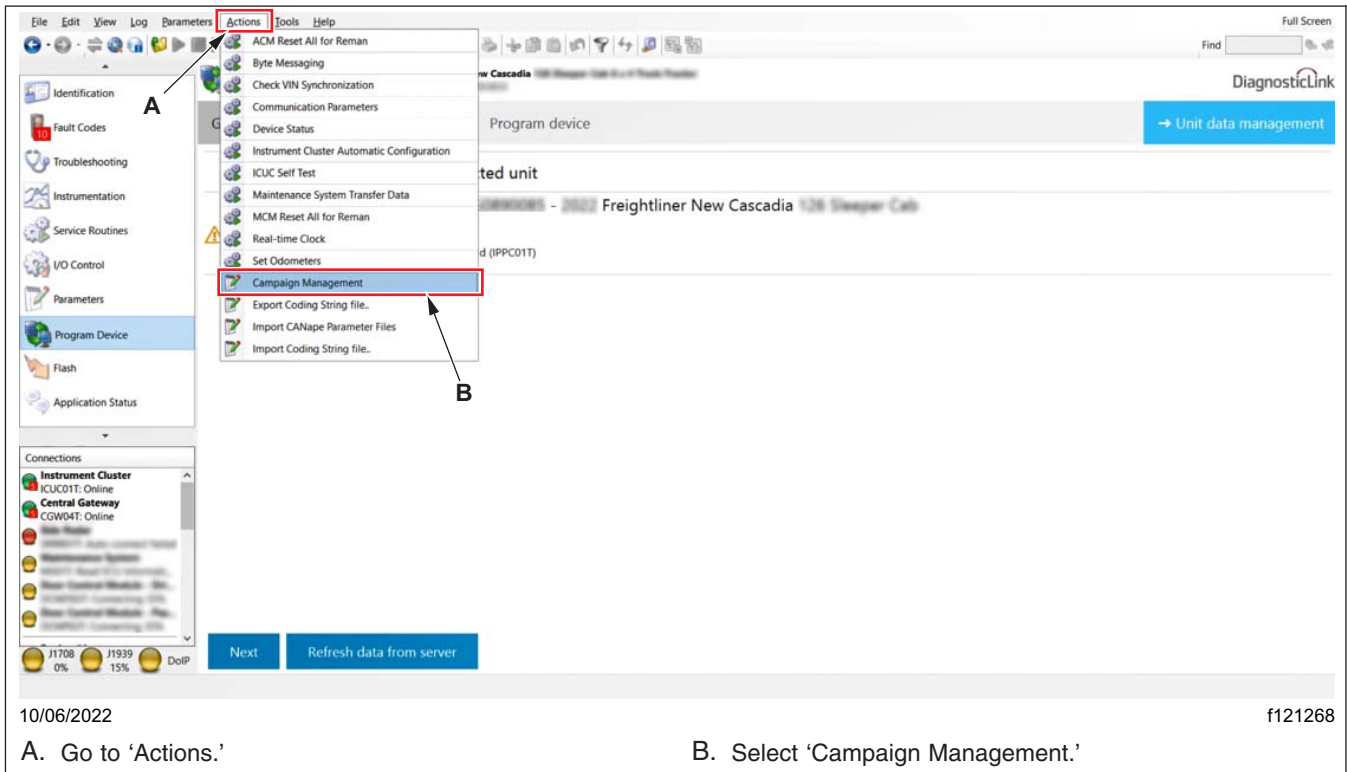

Fig. 8, Launching the Campaign Management Window
7.1 From the menu bar, select 'Actions,' then go to 'Campaign Management.' See Fig. 8.